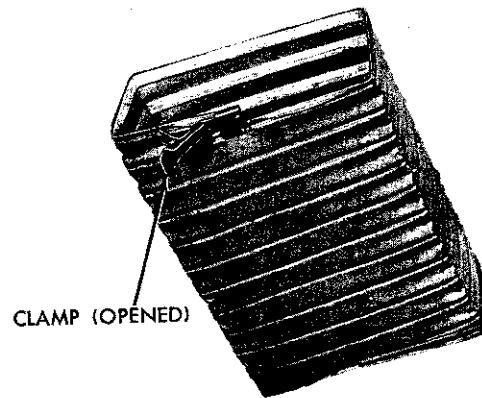

Fig. 49—Outlet Tube and Clamp
- (1) Discharge the refrigerant from the system.
- (2) Remove the rear seat, back rest and insulation blanket to assist in removal of the trunk unit components.
- (3) Release the four clamps on the flexible ducts (Fig. 49) and remove the ducts from the evaporator.
- (4) Disconnect electrical connections and drains.